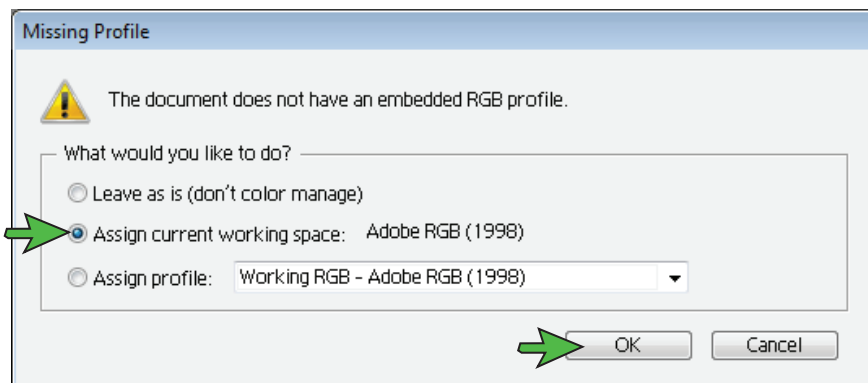

FIGURE 4
- When opening or importing images in Illustrator, you may encounter a **Missing Profile** warning. In this instance, select the radio [☑] button for **Assign current working space: Adobe RGB (1998)**. Click **OK** to continue (see *FIGURE 4*).